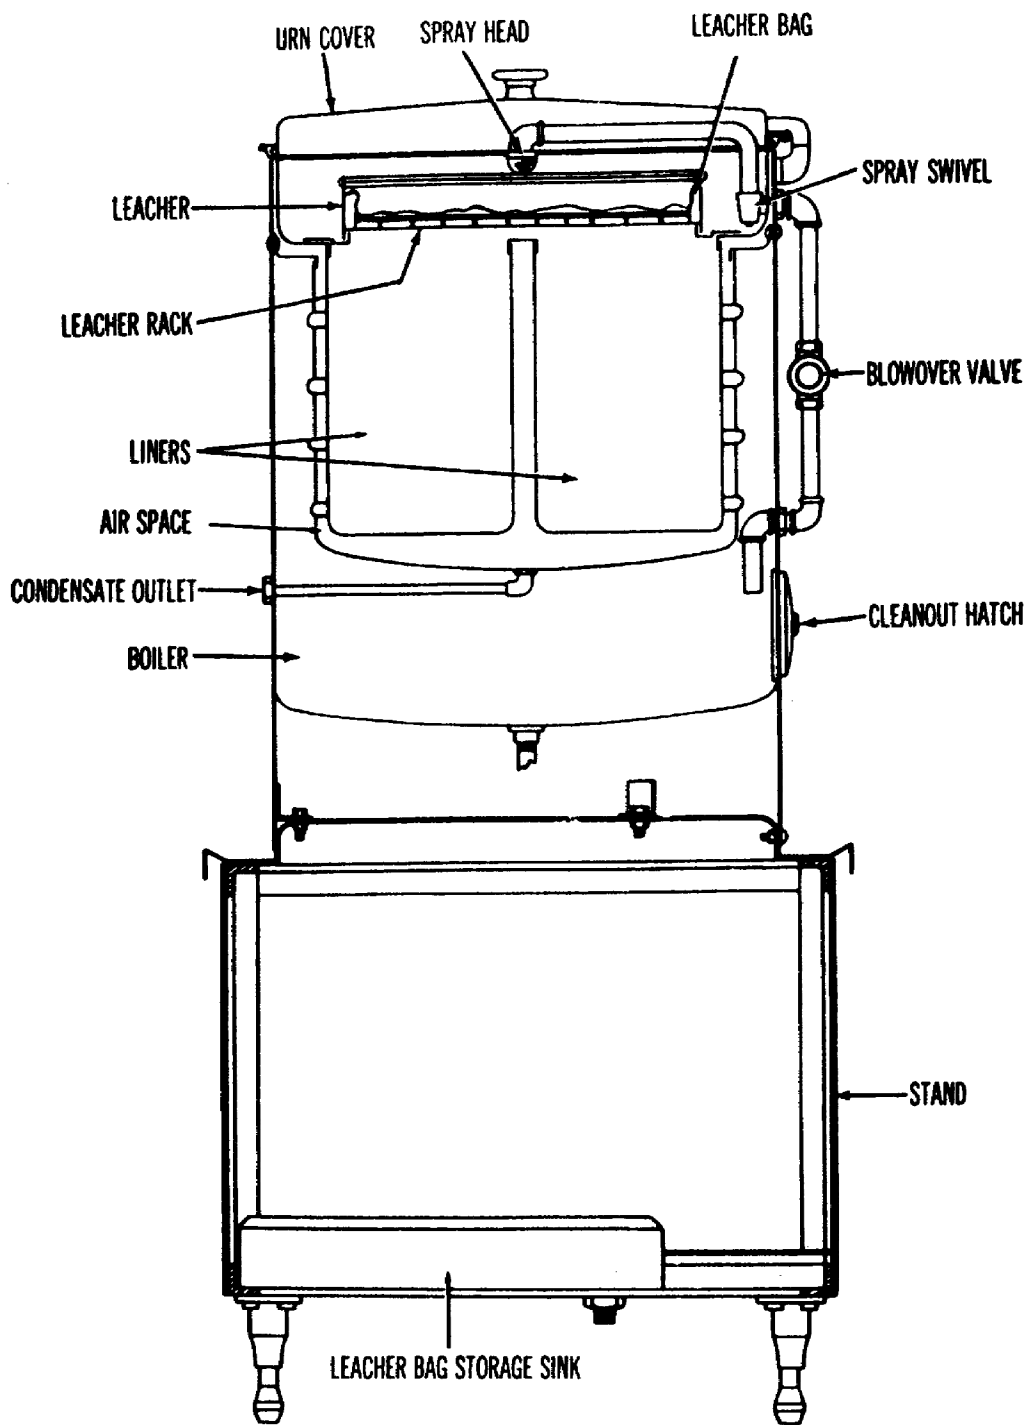

Figure 21. Cutaway diagram of a twin coffee urn.
20. **COFFEE URN.** The coffee urn is an upright cylindrical container in which coffee is brewed by the drip method. The boiler capacity is 10 or 15 gallons.. The urn has a leacher set in the top to hold ground coffee, and two liners of equal size separated by an airspace from each other and from the boiler that surrounds them (fig. 21). The airspace allows the coffee to remain hot; it insulates the coffee so it will not boil when the water in the boiler does, and the coffee will not get cold when the boiler is refilled. A condensate outlet is provided so that moisture caused by changes in the temperature can escape from the airspace. Each urn has two gages that indicate coffee levels and two faucets to draw coffee from the liners. The urn also has a gage to indicate water level in the boiler and a water faucet to draw hot water. The water control valve admits or shuts off water to the boiler, and the blowover control valve opens and closes the line through which water from the boiler is forced up through the spray head above the coffee leacher. The pressure in the boiler must reach 1/2 psi before this blowover valve will operate. A vacuum relief valve opens at 1/2 psi and allows a little steam to escape from the condensate tube, thus indicating to the operator that the boiler water has reached the boiling point. A safety pressure valve opens at 1 1/2 psi. A thermostat regulates boiler water temperature and a low-water cutoff switch on gas and electric urns cuts off the heat source if boiler water drops below the safe level. A storage sink is usually located in the urn base to provide cold-water storage for the leacher bag.